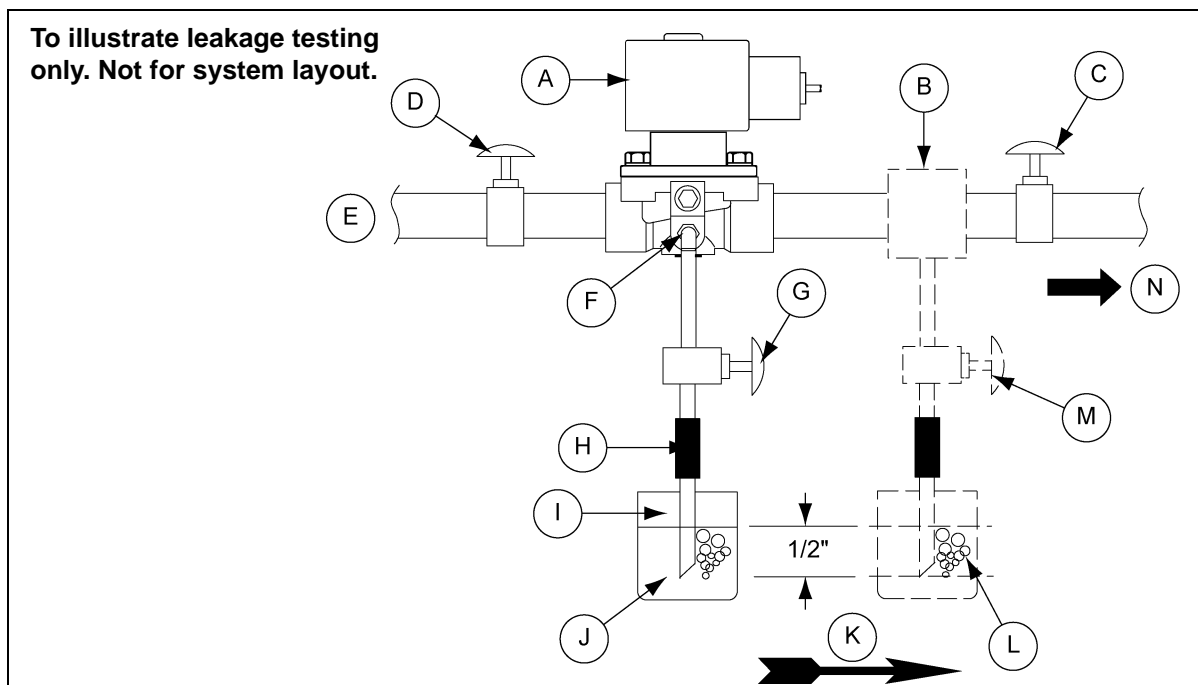

Figure 5A Testing for Internal Seat Leakage
2. Operate the safety shut off valve(s) through five (5) cycles. Listen carefully for the solenoid coil to click indicating proper operation.
4. Shut off the upstream manual shut off valve and de-energize the safety shut off valve (A). Remove the plug from the leak test tap (B) or downstream pressure tap (F) in the valve body. Connect leak test equipment with the test petcock (G) in the closed position. (See Figure 5A.)